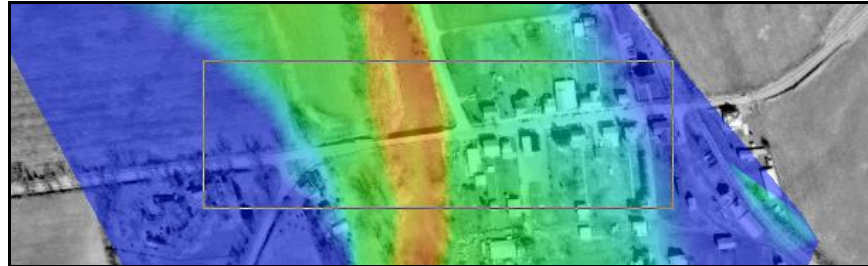

Figure 9 Zoom in to this area
3. **Zoom**  in to the area in the rectangle in Figure 9.